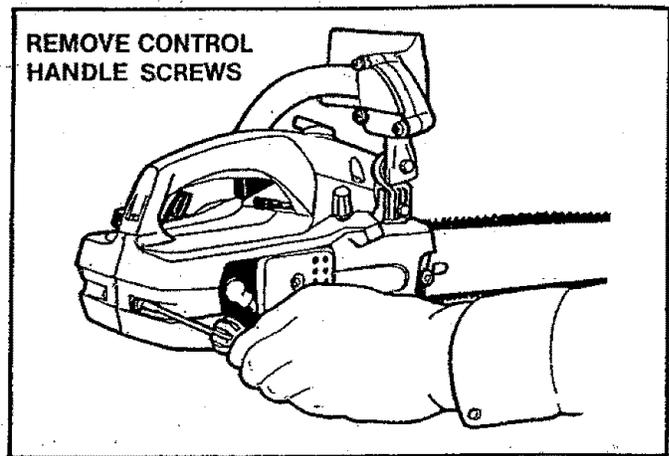

Figure 50
3. Remove the large screw at the rear of the control handle and the small screw directly below it. Figure 50.